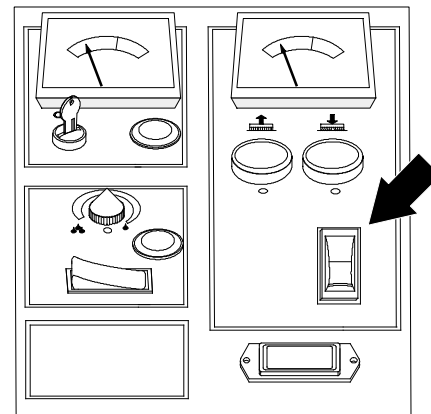

FIG. 4.
2. Activate Scrub/Transport Switch to either transport (brush-up) or scrub (brush-down) position (Figure 4).